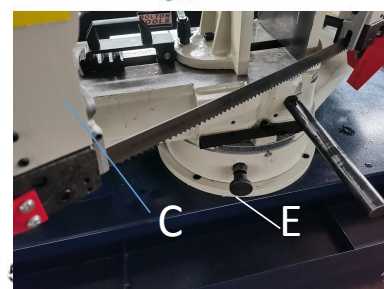

Fig.10
- 2、 Pull out the locating pin(E)Fig.10; the locating pin can be rotated, use as required.
- 3、 Turn the saw bow(C)Fig.10; adjust the desired Angle according to the scale.Fig.10;